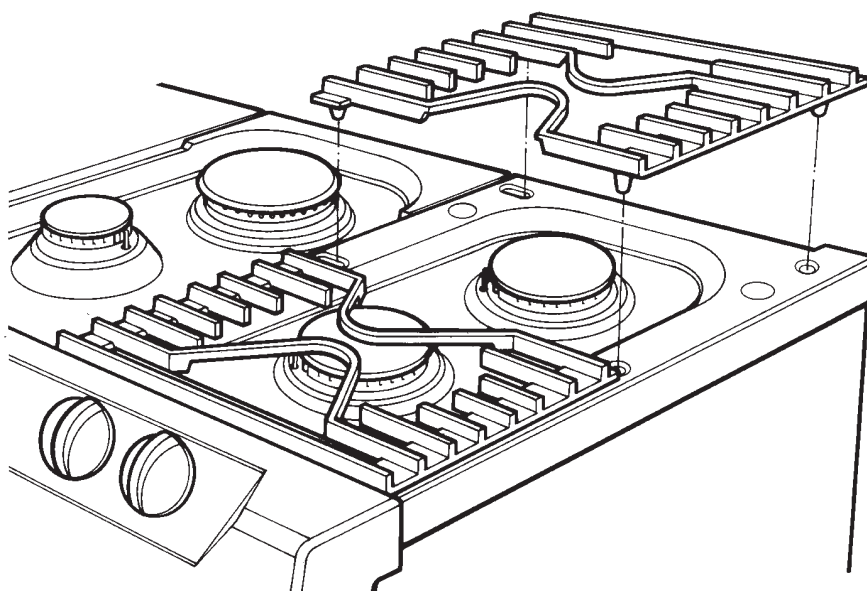
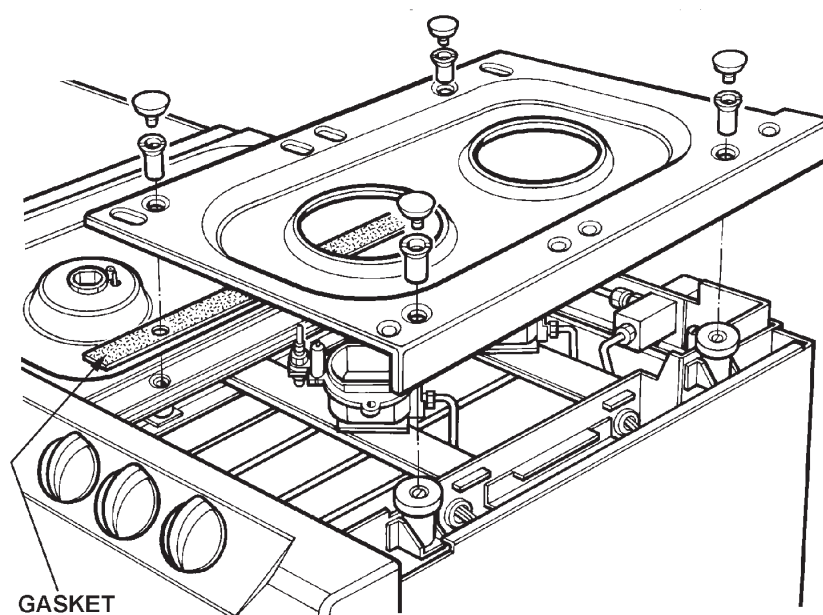

Fig. 22
Fig. 23
2. Remove pan supports and burner caps (See Fig. 22).
3. Remove burner fixing screws (14) and hotplate fixing nuts (8).
4. Lift off the burner fixing rings (6).
5. Lift off hotplate casting in the following order: left hand, right hand and centre. (See Fig. 23).